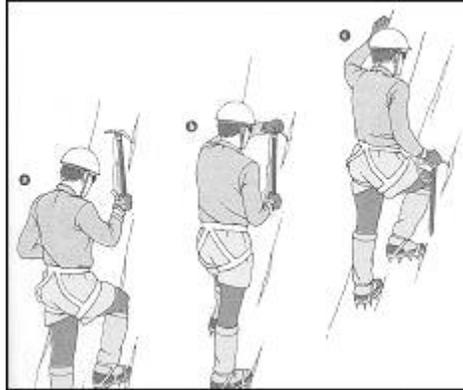

Figure 21-25
b. Ascending with an Axe. (Fig 21-25)
(1) Low Dagger Position.
(2) High Dagger Position.
(3) Front Pointing (Axe in the Anchor Position).